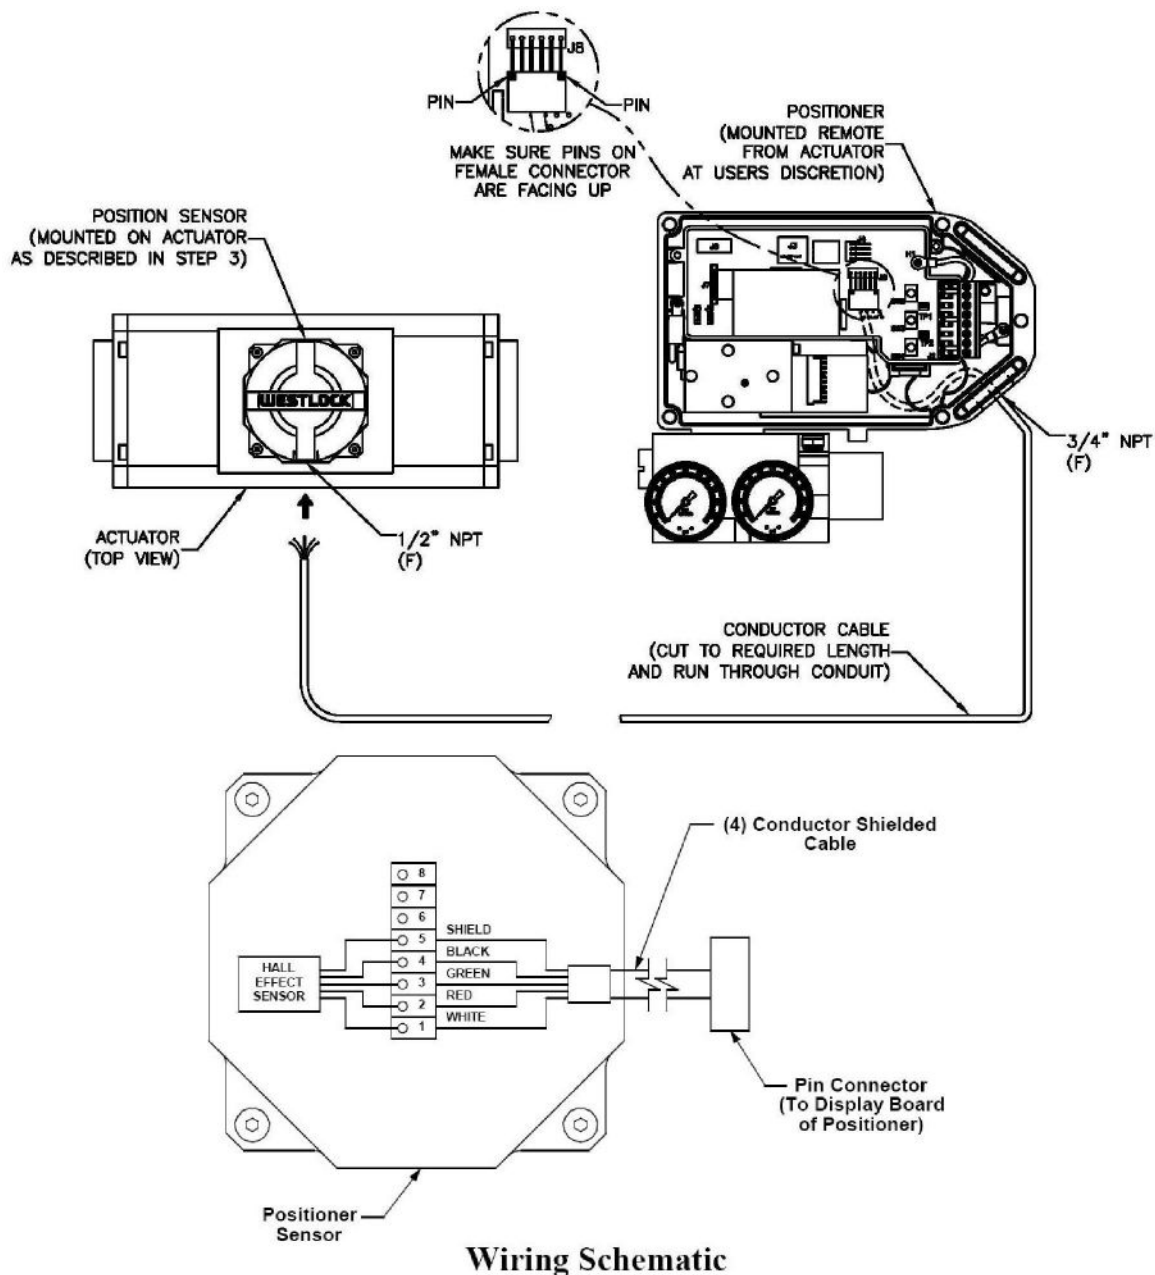

Figure 3-4
Step 5. Remove the electronic canister cover by unscrewing (2) mounting screws. (Appendix B: Procedure to Remove Electronics Cover and Electronic Canister)
Step 6. If necessary cut remote cable to required length, making sure to cut end opposite female connector. Wire the positioner sensor back to the positioner using the cable provided and replace cover. (See Figure 3-4).